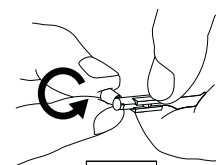

Figure 7
4. Remove cap for cartridge pen by turning it (Figure 7).